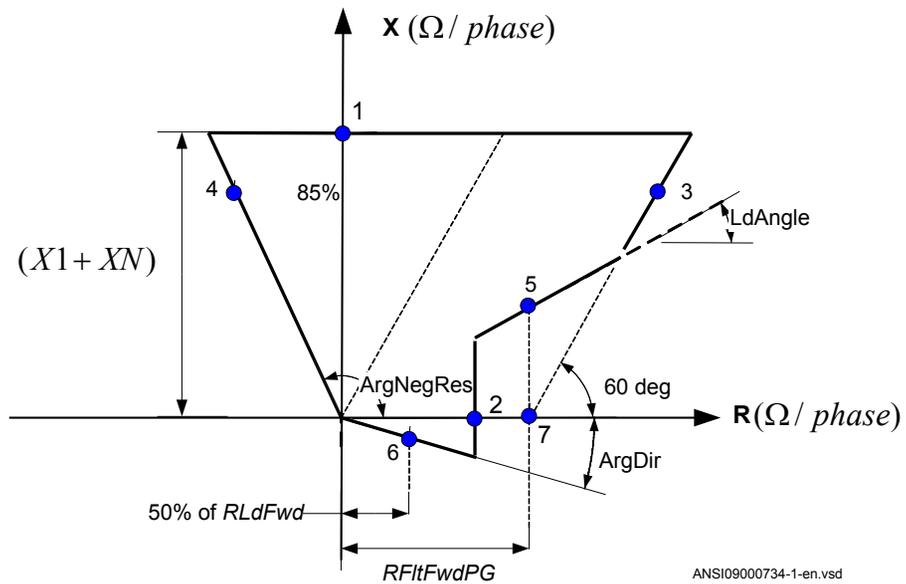

Figure 59: Operating characteristic for phase selection function, forward direction single-phase faults
Table 23 is used together with figure 59.
2. Apply the fault condition and slowly decrease the measured impedance to find the operate value for of the phase-to-ground loop ECG, test point 1, according to figure 59. Compare the result of the measurement with the expected value according to table 23.
3. Repeat steps 1 to 2 to find the operate values for the remaining test points according to figure 59 and table 23.